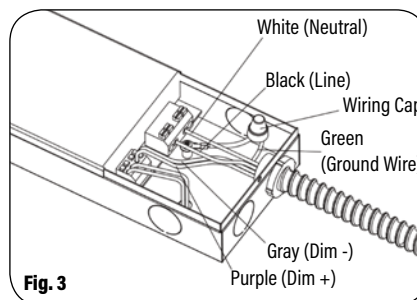

Fig. 3
3. Connect the ground wire and insert the other wires into the appropriate terminal blocks. (Fig. 3)